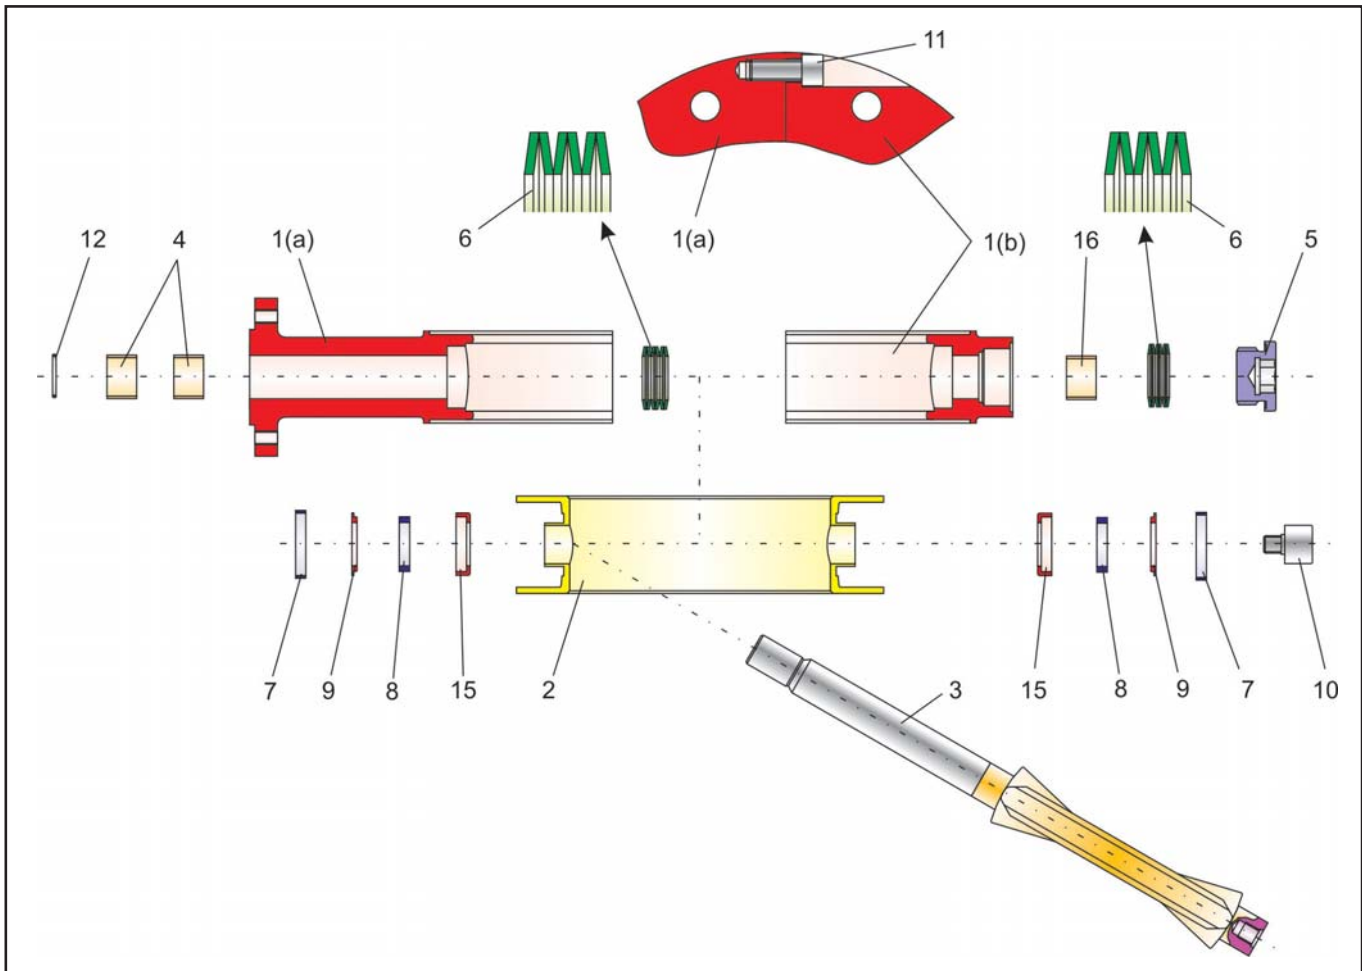

Fig. 3 - Exploded view of the Series 10e Control Butterfly Valve
**Note!** The position and arrangement of the individual parts shown in the detail drawing (Fig. 3) are to be observed during assembly.
Place the set of Belleville washers (6), consisting of six Belleville washers, into the appropriate place in the body section (1b). Refer to Fig. 3 for the arrangement of the Belleville washers.
Place the set of Belleville washers (6), consisting of six Belleville washers, into the appropriate place in the body section (1a). Refer to Fig. 3 for the arrangement of the Belleville washers.